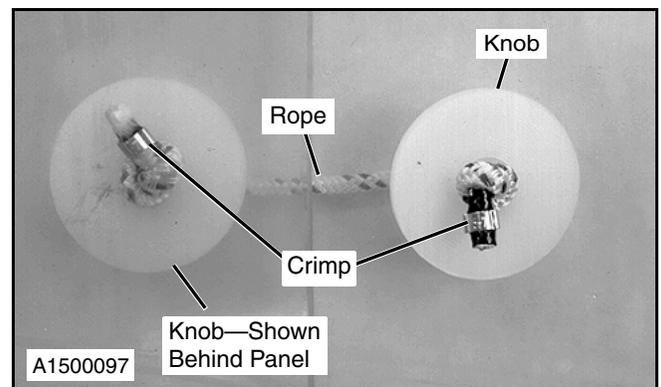

Figure 39
13. Repeat these steps for each set of knobs. Figure 39 shows a completed set of knobs, rope and crimps.